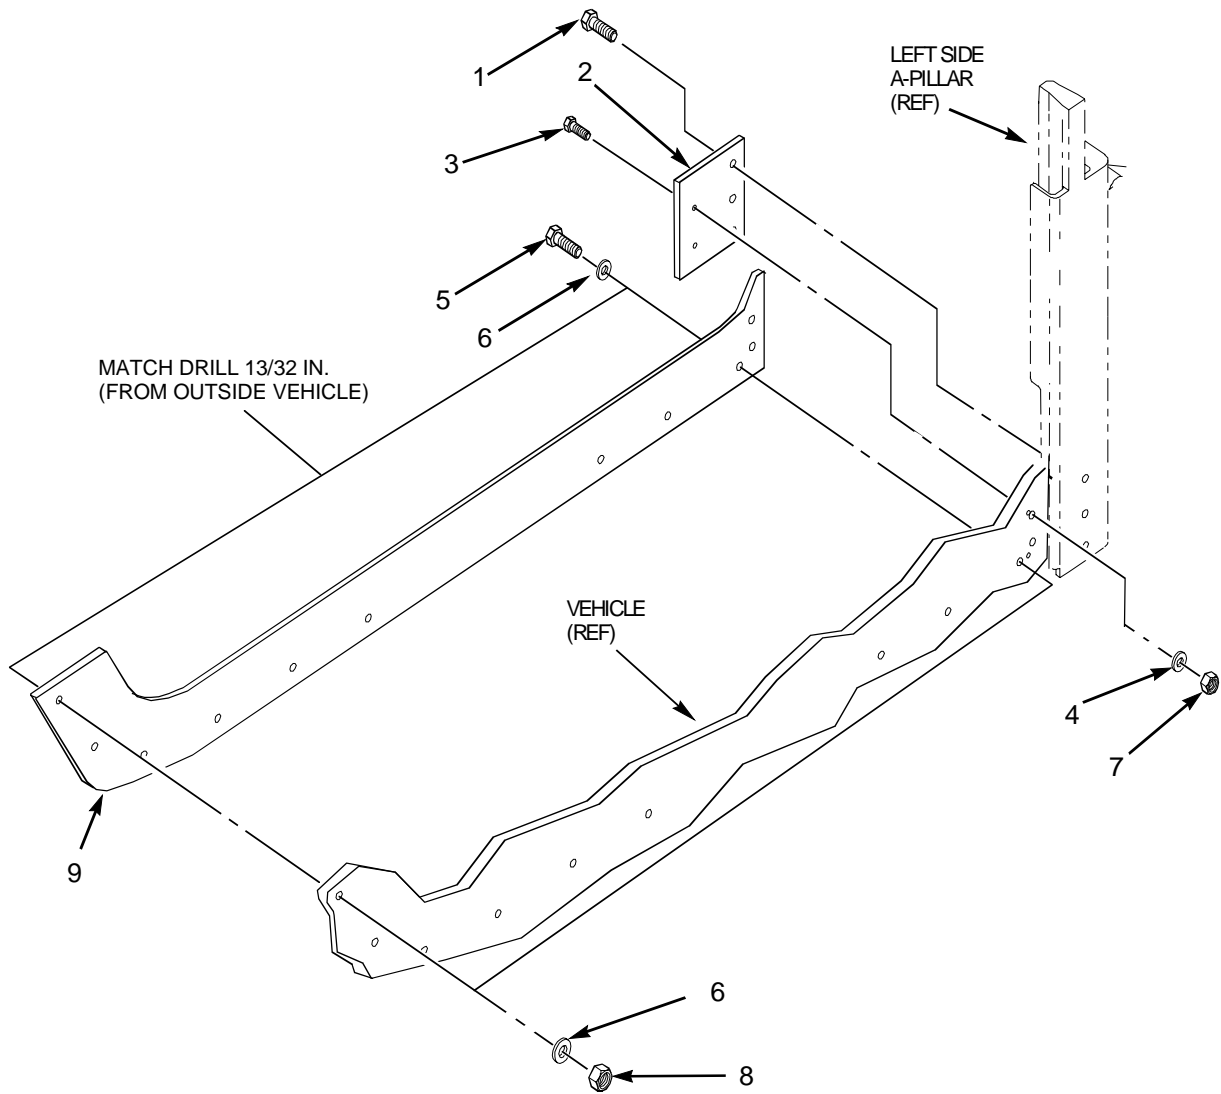

Figure 1-6. Left Rocker Panel Armor Installation (2 and 4 Door)
- 1) Position left rocker panel armor (9) to vehicle and c-clamp in place (see figure 1-6).
- b. Apply sealing compound to capscrews (1), (3), and (5).
- c. Install left side rocker panel (9) with nine capscrews (5), washers (6), and locknuts (8).
- d. Install gap plate (2) with three capscrews (1), two capscrews (3), two washers (4), and two locknuts (7) per figure 1-6. Torque two capscrews (3) to 10 lb ft (14 N•m).
- e. Torque capscrews (1) and (5) to 37 lb ft (50 N•m). Remove c-clamps.